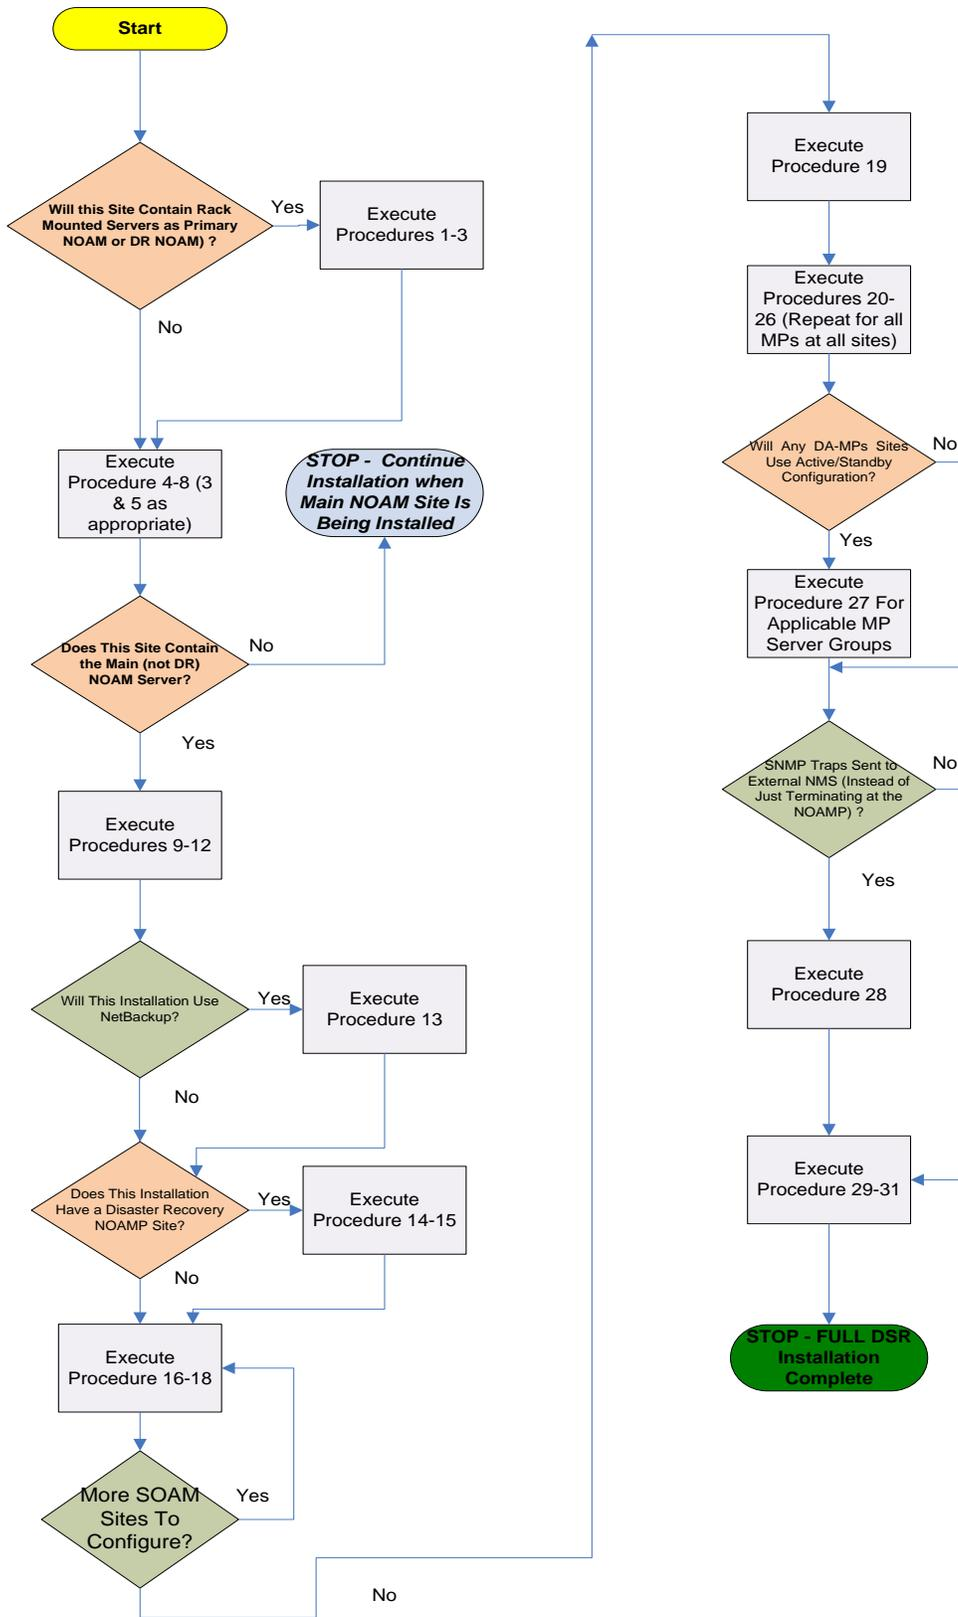

Figure 4: DSR Single Site Installation Procedure Map
3. For each SOAM /MP/DR-NOAM only site (i.e. sites **NOT containing the main NOAMP server**), the installer will execute the procedures in document [11] / [12] to set up the PMAC, HP enclosures, and switches. Then, using the procedures in *this* document, all servers will be IPM-ed with the proper TPD and DSR application ISO image. (Figure 4 details the exact procedures that are to be executed for the 2nd part of this install) When this is complete, all non-NOAMP sites will be reachable through the network and ready for further installation when the primary NOAMP site is brought up.
4. The installer will then move to the "main" site that will contain the primary NOAMP. Again, [11] / [12] will be executed for this site. Then, moving on to the procedures in *this document*, Figure 4 is consulted to determine the procedure list. During this install, he will "bring up" the other sub-sites (if they exist) that were